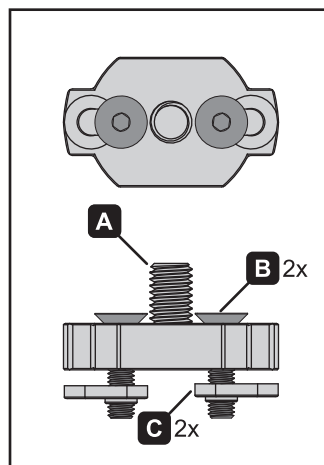

Figure 1.
1. Place the anchor into the proper location with the screws (B) pushed inward (figure 1).